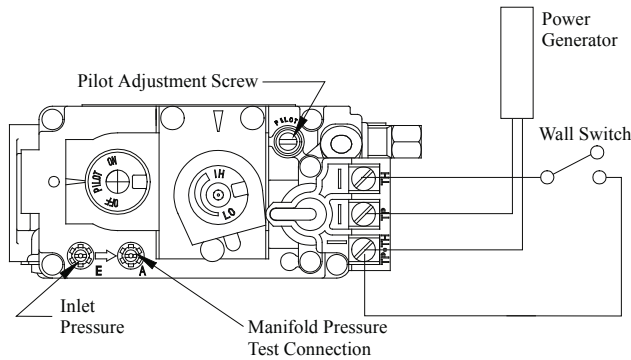

Figure 44. Vista 38 ST (Sit Nova 820) gas valve.
- An inspection of the gas valve, gas components, and pilot flame. For your convenience a 1/8" manifold pressure tap is supplied on the gas valve for a test gauge connection. See Figure 44.
1. Locate Pilot Adjustment Screw. See Figure 44.